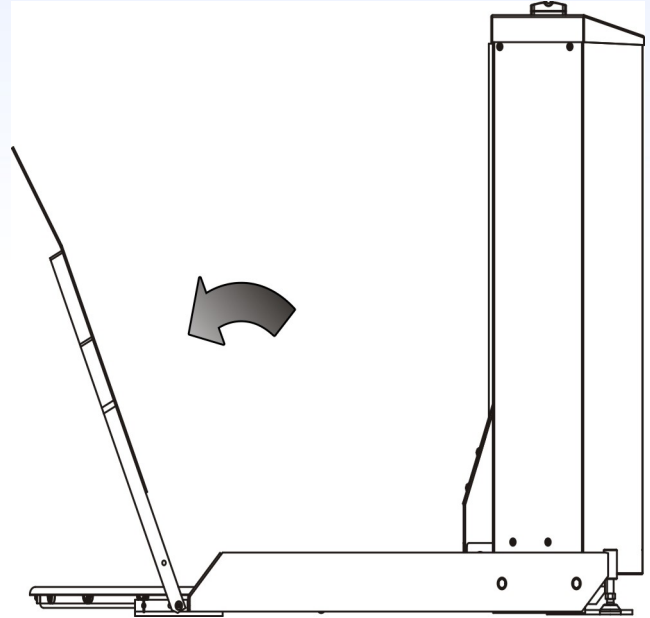
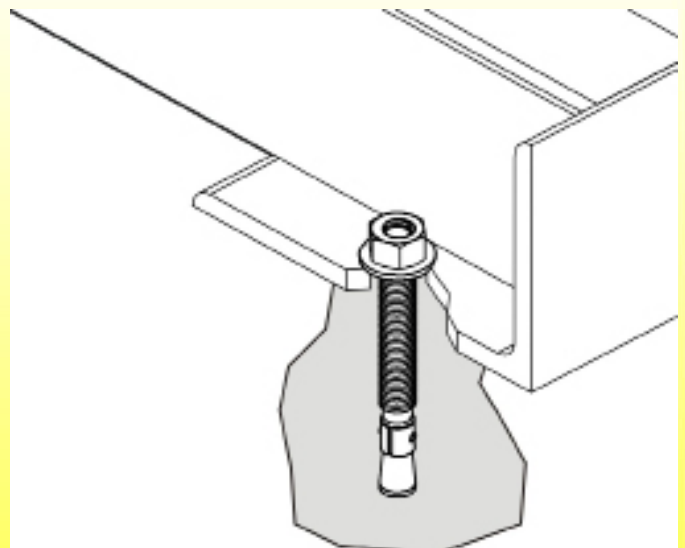

Figure 10 - Ramp Operation
Figure 11 - Anchor Bolt Detail
11. Next, rotate the ramp to its operating position. As shown in Figure 10, remove the spring detents pins that are securing the ramp in the stored position. Carefully grab the end of the ramp and rotate the ramp to the operating position. The ramp is heavy. **USE CAUTION** not to pinch fingers or toes under the ramp. Reinstall the detents pins to secure the ramp in the operating position.
13. The EZ Off Lifter's base frame has three (3) 5/8 in. holes for lagging the unit securely to the floor. Using the three(3) holes as a template, drill a 1/2 in. diameter hole, 3 in. minimum depth at each location. The floor surface should be level and drilled holes perpendicular to the floor. Depending on the floor conditions, the bottom of the rear anchor plate should be approximately 0.13 in. (3.3 mm) off the floor. This gap should be shimmed to prevent distorting the rear frame.
14. As detailed in Figure 11, prepare the 1/2 in. diameter x 3 in. long anchor bolts (*USE type SUP-R-STUD #26-12400 or equivalent*) by assembling the washer and nut on the anchor bolt. The nut should be screwed onto the anchor approximately 1/2 the nut height. Drive the assembled anchor through the mounting holes into the concrete until the washer is flush with the top of the anchor plate. Expand the anchor shield by tightening the nut three (3) to five (5) turns. Repeat for the remaining anchors.
2. Position the ramp in the stored position. As shown in Figure 10, remove the spring detent pins that are securing the ramp in the operating position. Carefully grab the end of the ramp and rotate the ramp to the stored position. The ramp is heavy. Use CAUTION not to pinch fingers or toes under the ramp. Reinstall the detent pins to secure the ramp in the stored position.
10. Next, rotate the ramp to its operating position. As shown in Figure 10, remove the spring detent pins that are securing the ramp in the stored position. Carefully grab the end of the ramp and rotate the ramp to the operating position. The ramp is heavy. Use CAUTION not to pinch fingers or toes under the ramp. Reinstall the detent pins to secure the ramp in the operating position.